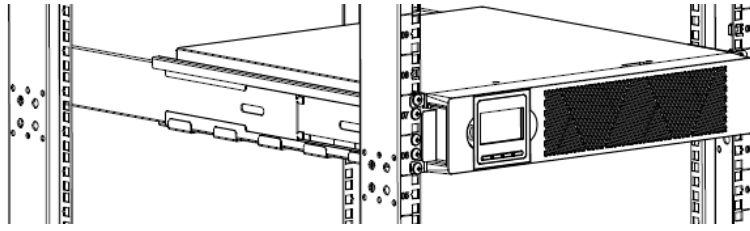

Figure 3: Securing the front of the cabinet
- j) Secure the front of the UPS to the rack using four M5x25 pan-head screws and four M5 floating nuts (see Figure 3). Repeat for any optional cabinets.